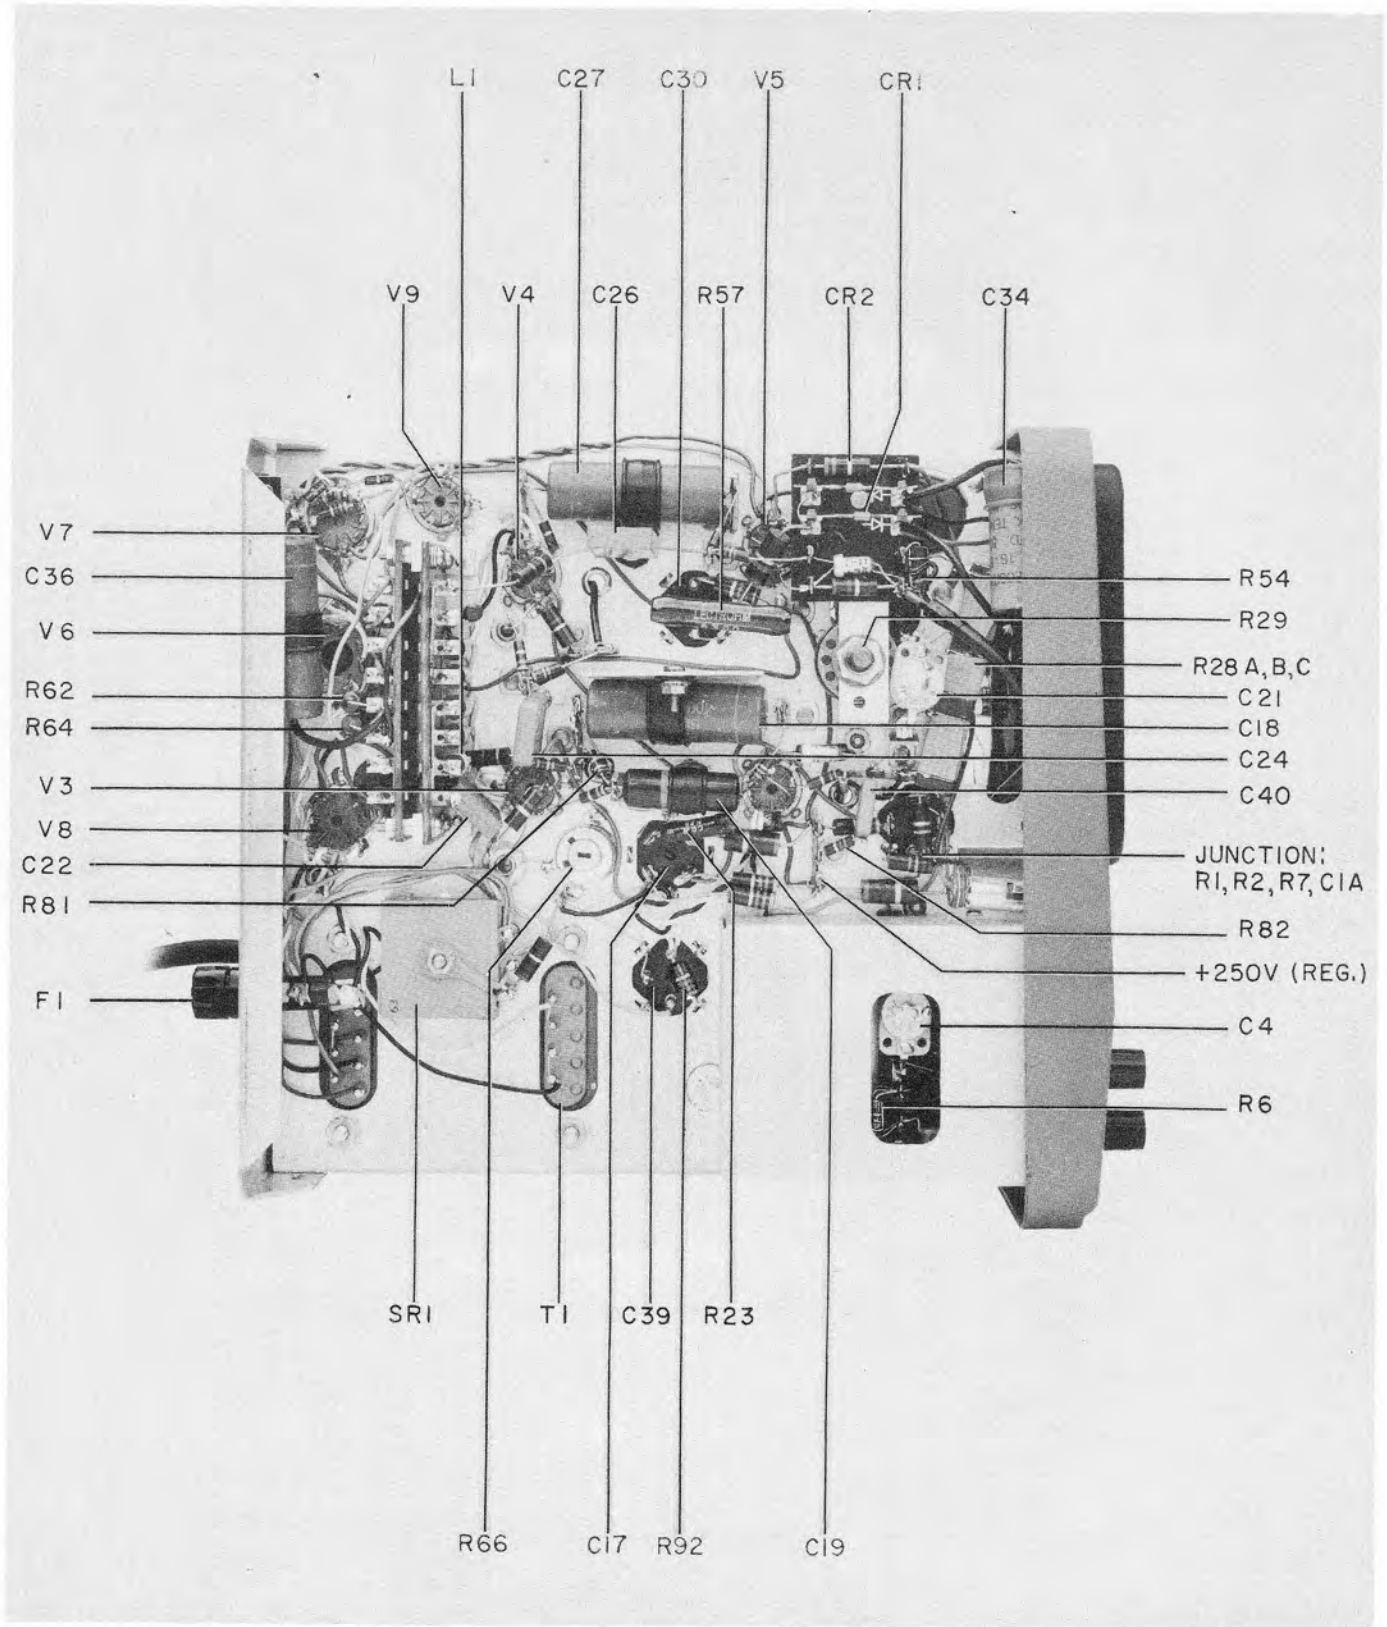

Figure 4-1. Model 400D/H View of Left Side Instrument Case Removed
1) Remove the two screws (on the rear of the instrument) which secure the case to the chassis. To shield the instrument from any r-f field that may be present, leave as much of the wiring covered as possible, and slide the case back only far enough to reach variable resistor R29 and variable capacitor C4. R29 and C4 are identified in Figure 4-1.
3) Set the Model 400D range switch to the .3 volt position, and apply .3 volt at 400 cycles to the input of the Model 400D. ADJUST R29 (Figure 4-1) until the 400D meter indicates exactly .3 volt.